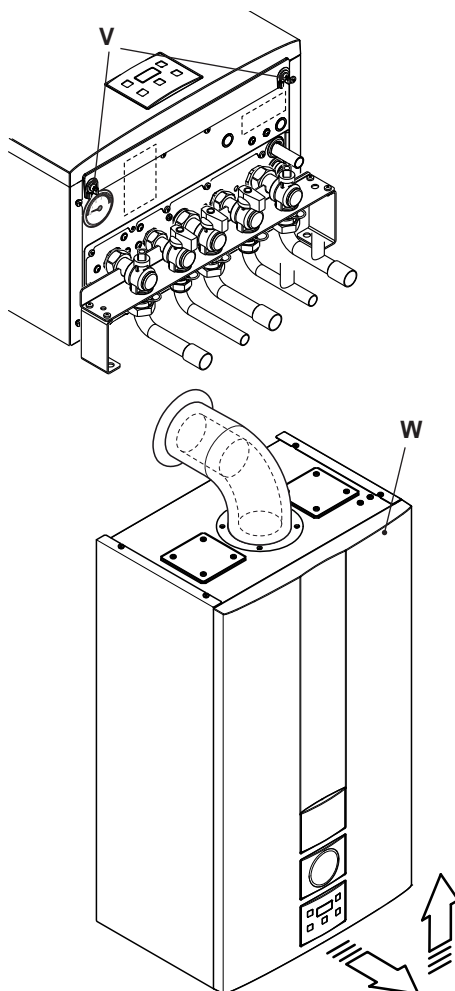

Fig. 6.14
- Unscrew screws " V " and remove the front panel " W " by pulling it and pushing it towards the top so that it is freed from the top housing Fig. 6.14.